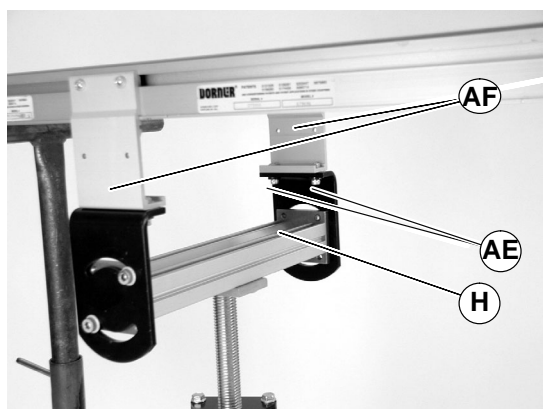

Figure 22
8. Lower conveyor supports (AF of Figure 22) onto mounting bracket (H). Attach conveyor supports to bracket with hardware (AE).
<p>WARNING</p> <p>Failure to secure screws (AE) of Figure 22) may cause conveyor sections to drop down, causing severe injury.</p> <p>TIGHTEN ALL SCREWS (AE) AFTER ADJUSTMENT.</p>
9. Tighten fastening hardware (AE of figure 22) to 100 in-lb (11 N-m).